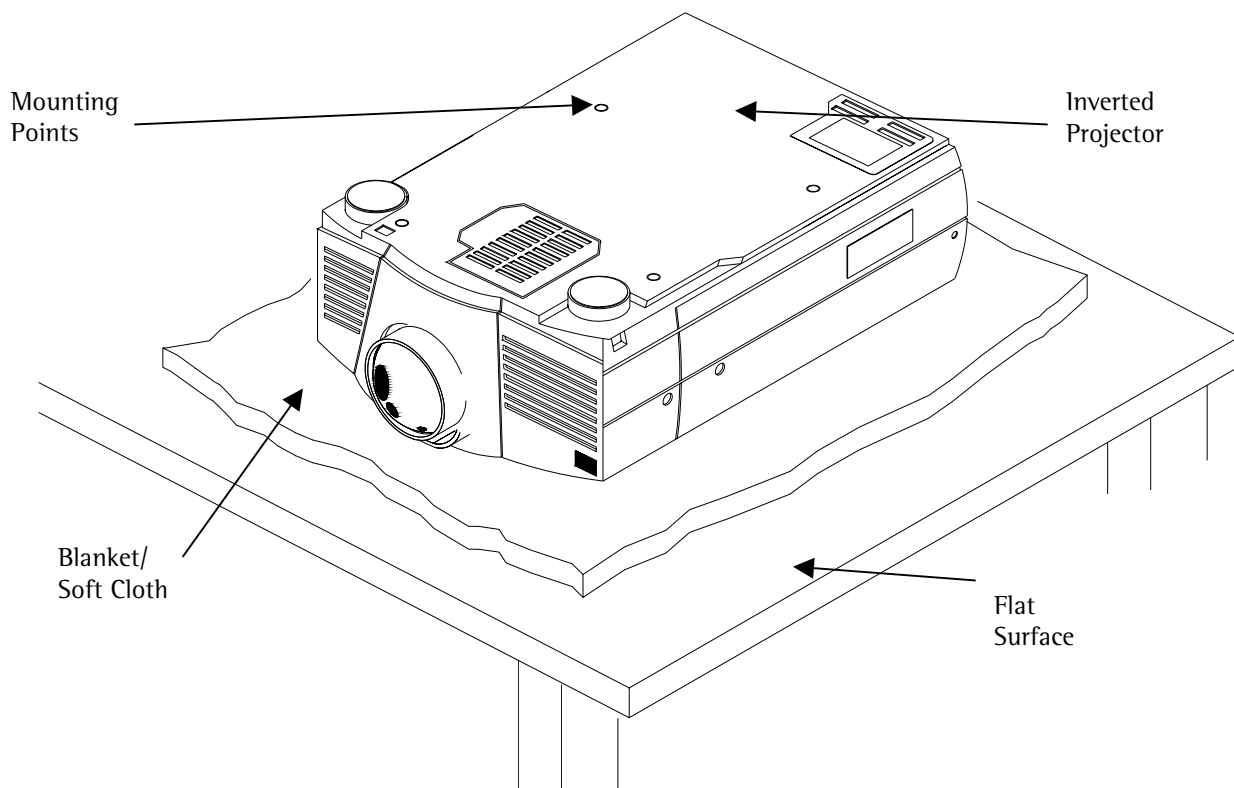

Figure 1. Projector Preparation
2. Identify the number of mounting points and screw thread size. Most projectors have either three of four mounting points and are M4, M5 or M6 in thread size (Figure 1).